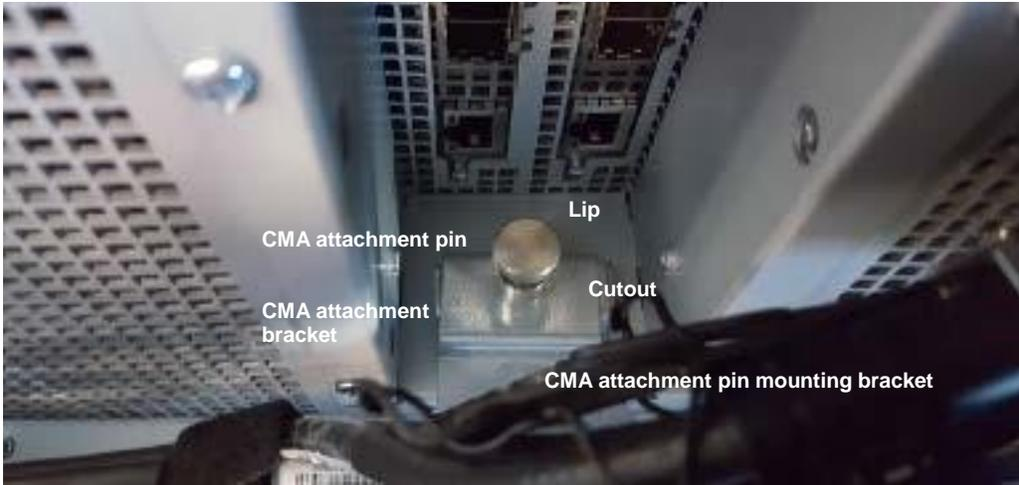

Figure D.5 Cobra CMA attachment pin
- a. Disengage the spring-loaded CMA attachment pin located on the rear of the enclosure. Lift up on the pin and turn it counter-clockwise for 1/2 turn. The pin is shown in Figure D.5.
- b. Align the CMA attachment bracket so that the cutout slides fully forward, under the head of the CMA attachment pin, and the lip on the CMA attachment bracket hangs over the edge of the pin's mounting bracket as demonstrated in Figure D.5.